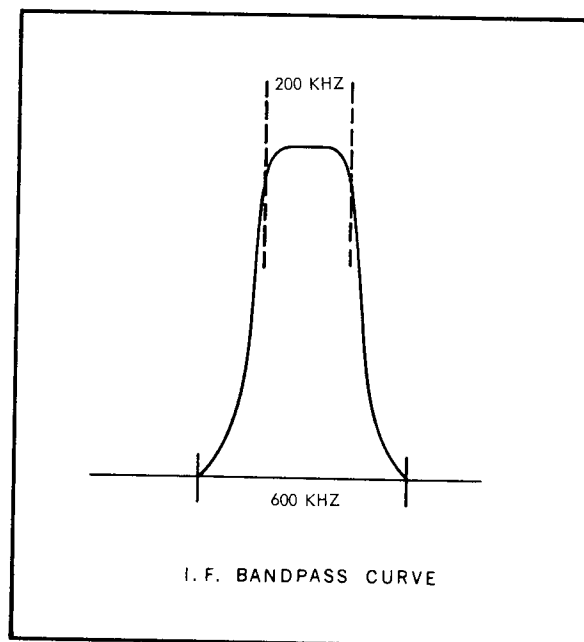

Figure 10. Oscilloscope Display of Symmetrical IF Bandpass Curve
8. Tune first the bottom and then the top of T101 for a maximum reading on the dc VTVM. The symmetrical IF bandpass curve displayed on the oscilloscope should be similar to the curve shown in Figure 10.